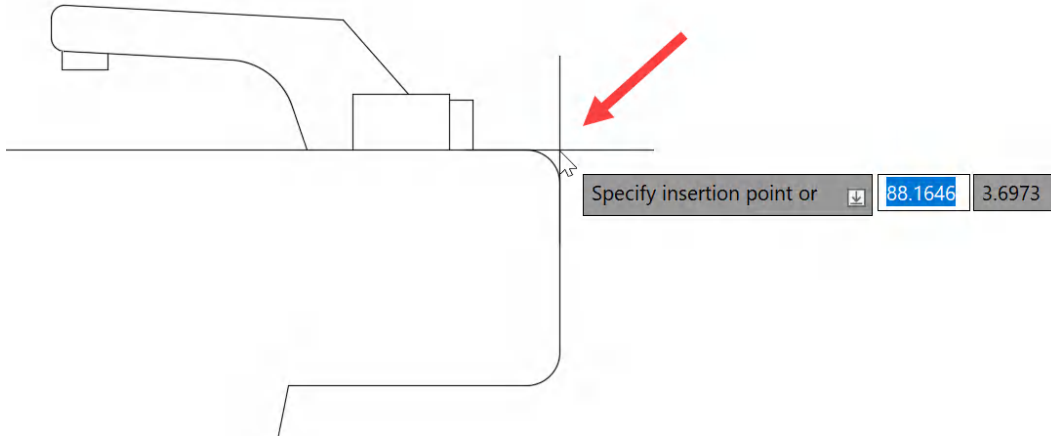

Figure 12.36: The Washbasin\_DYN block inserted with the Washbasin-SIDE view current
4. Select the **Washbasin\_DYN** block on the dropdown to insert it into the drawing. The block will appear on the cursor. You will see that the dynamic block has adopted the first current visibility state that was set, the **Washbasin-SIDE** view, as shown in *Figure 12.36*. This can be changed (if required) shortly.